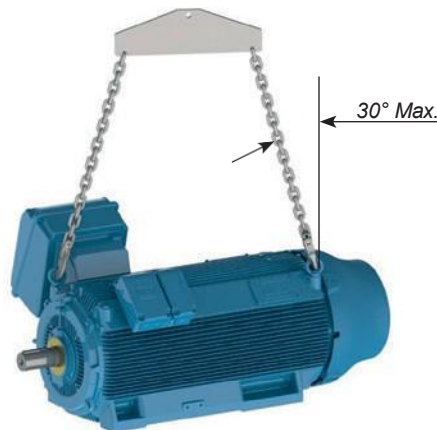

Figure 8 - Maximum resulting angle for horizontal HGF, W40, W50 and W51 HD motors
- For HGF, W40, W50 and W51 HD motors, as shown in Figure 8, the maximum resulting angle should not exceed 30° in relation to the vertical axis;